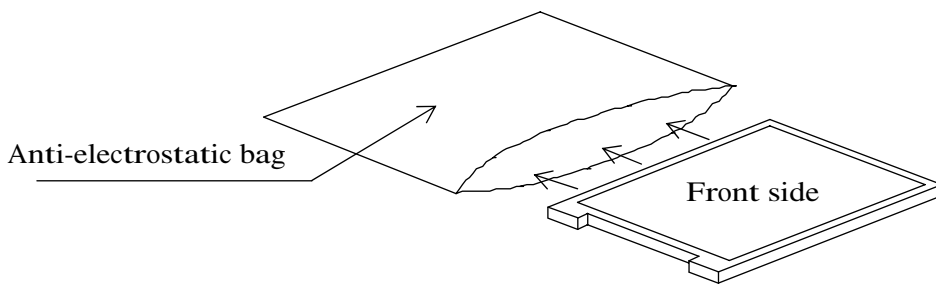

Fig. 17-1(a) Packaging method
(9) Return method of the LCD module requested for repair or analysis of the problem
- When returning the LCD modules, adhere to the following procedures not to damage the LCD panel or the backlight cables. (Fig. 17-1(a)~(b))
(1) Attach protective sheet.
(2) Hook the backlight cables.
(3) Put the LCD module into the anti-electrostatic bag (Please do not use torn anti-electrostatic bags)